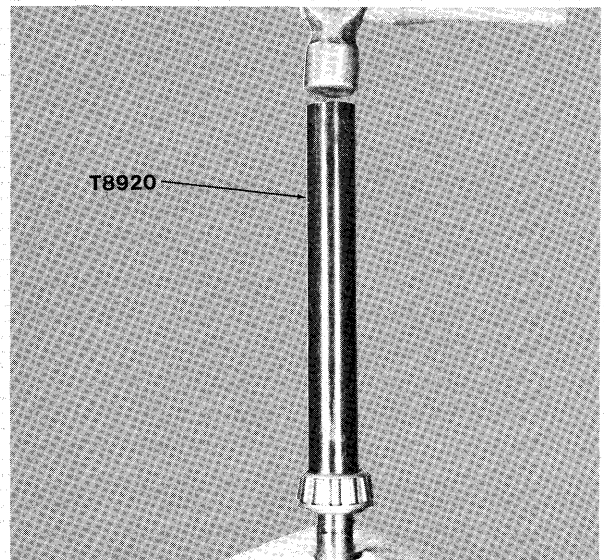

Figure 12—Installing Driveshaft Bearing
- C. Clamp driveshaft in vice (using protective jaws or rag) and drive bearing on driveshaft using bearing installer (Special Tool T8920) until bearing just bottoms against retaining ring as shown in figure 12.